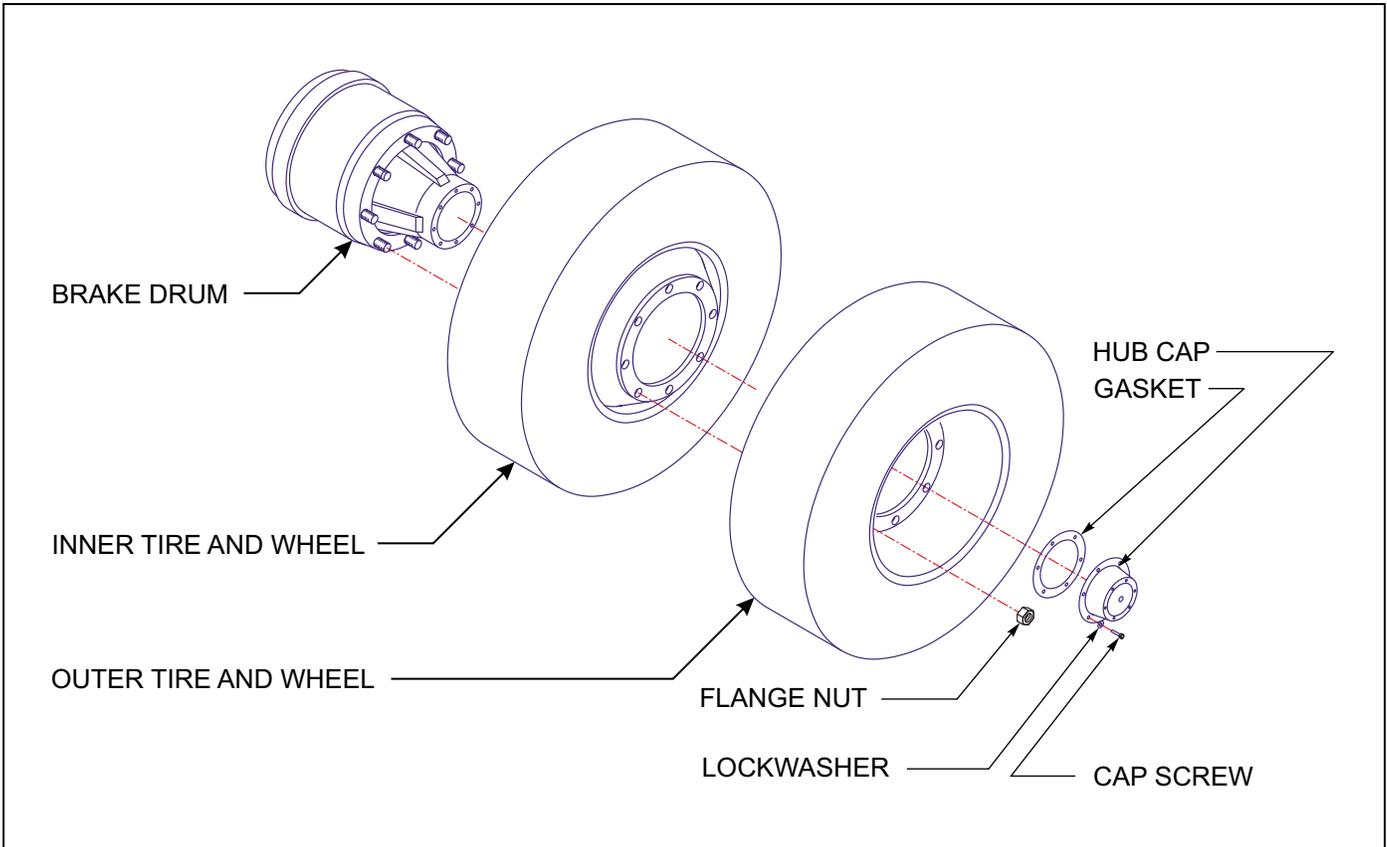

Figure 4-13: Mounting Tires & Wheels
1. Make sure that all mounting surfaces are clean and free of rust, dirt or paint. A wire brush may be used to clean these surfaces (See Figure 4-13.)